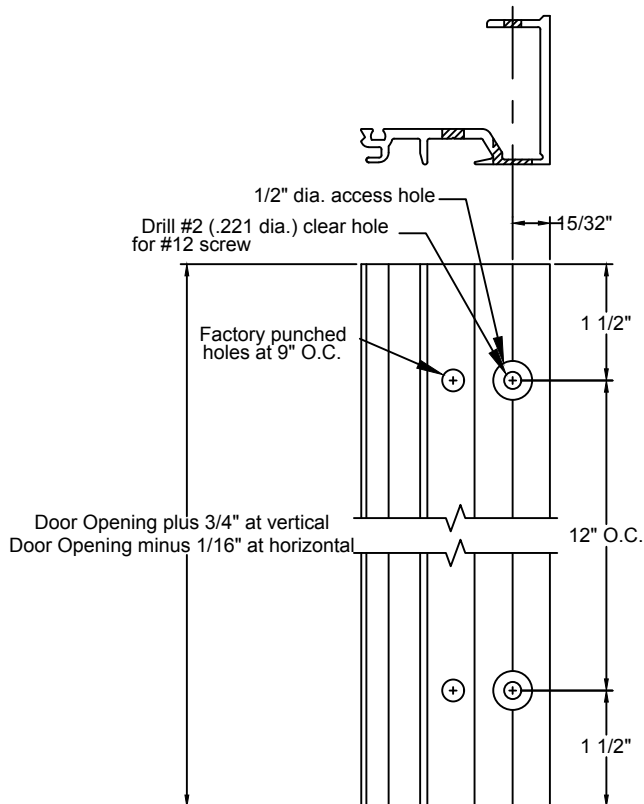
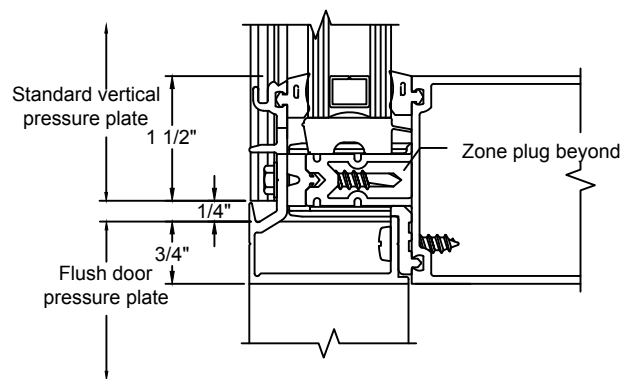
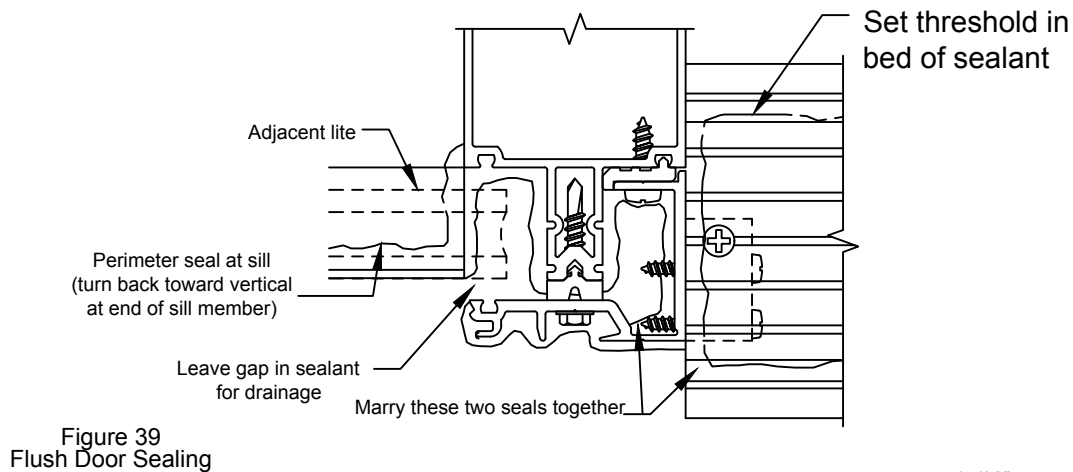

Figure 36
Figure 37
Figure 39
- C.3.1 Drill 1/2" diameter access holes in flush door pressure plates 1 1/2" from ends and 12" O.C. SEE FIGURE 36.
- C.3.2 Attach TH-44 threshold clip to bottom of each vertical pressure plate with two (2) FS-256 #8 x 1 1/2" Phillips Round Head screws.
- C.3.3 Complete the glazing adjacent to the door frame, installing the flush door pressure plates per standard procedures previously outlined. Bed vertical pressure plates in sealant at sill and attach through access holes to mullion with FS-43 #12 x 3/4" Phillips Pan Head screw 1 1/2" from each end and 12" O.C. SEE FIGURE 37 and FIGURE 39, page 38.